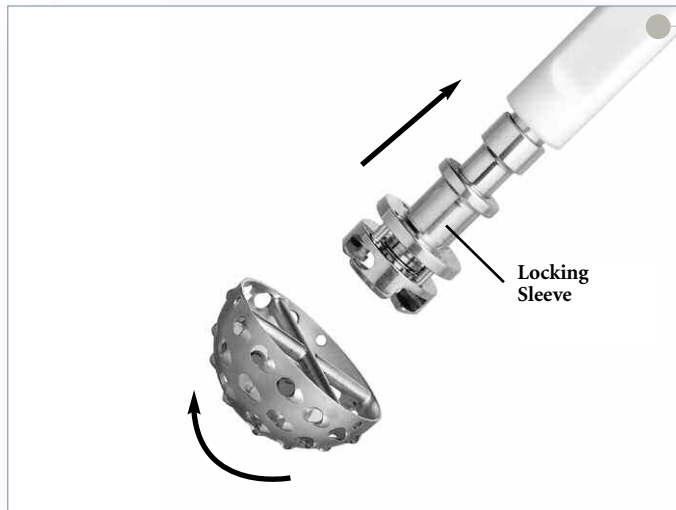

Figure 4
- ▶ The full profile of the CuttingEdge Spherical Reamer necessitates reaming to the full depth. The reamer head should be driven to the point where the rim/cross bar contacts the acetabular wall at the peripheral lunate region. Removal of the reamer from the handle is performed by pulling back on the locking sleeve and rotating the reamer head a quarter-turn in a clockwise direction (Figure 4).